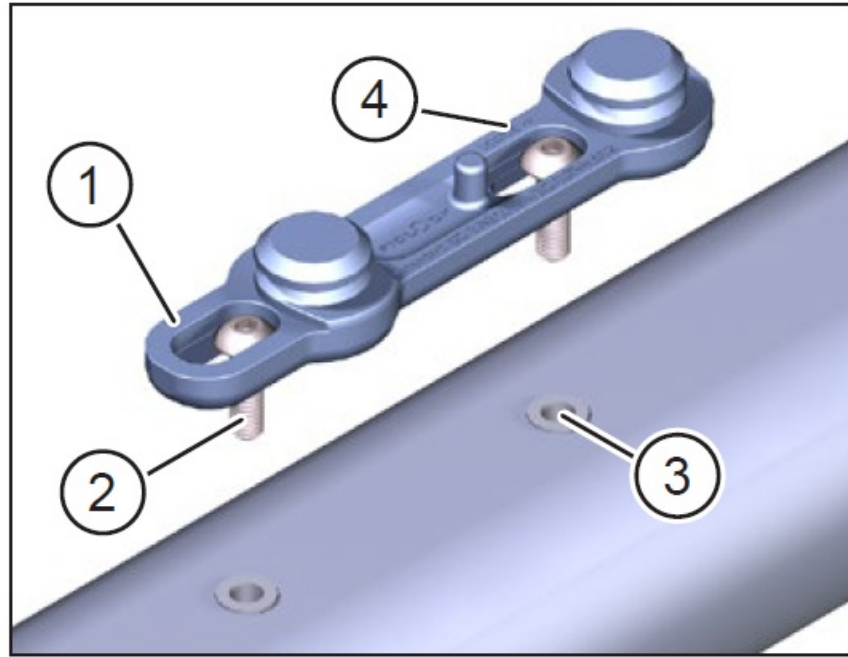

Fig. 1: Fasten the FIDLOCK® Bike Base to the e-bike
- Fasten the FIDLOCK® Bike Base (Pos. 1 in Fig. 1) with the two button head screws (Pos. 2 in Fig. 1) in the threads provided for this purpose (Pos. 3 in Fig. 1, follow the specifications of the bicycle manufacturer) inside the e-bike frame.